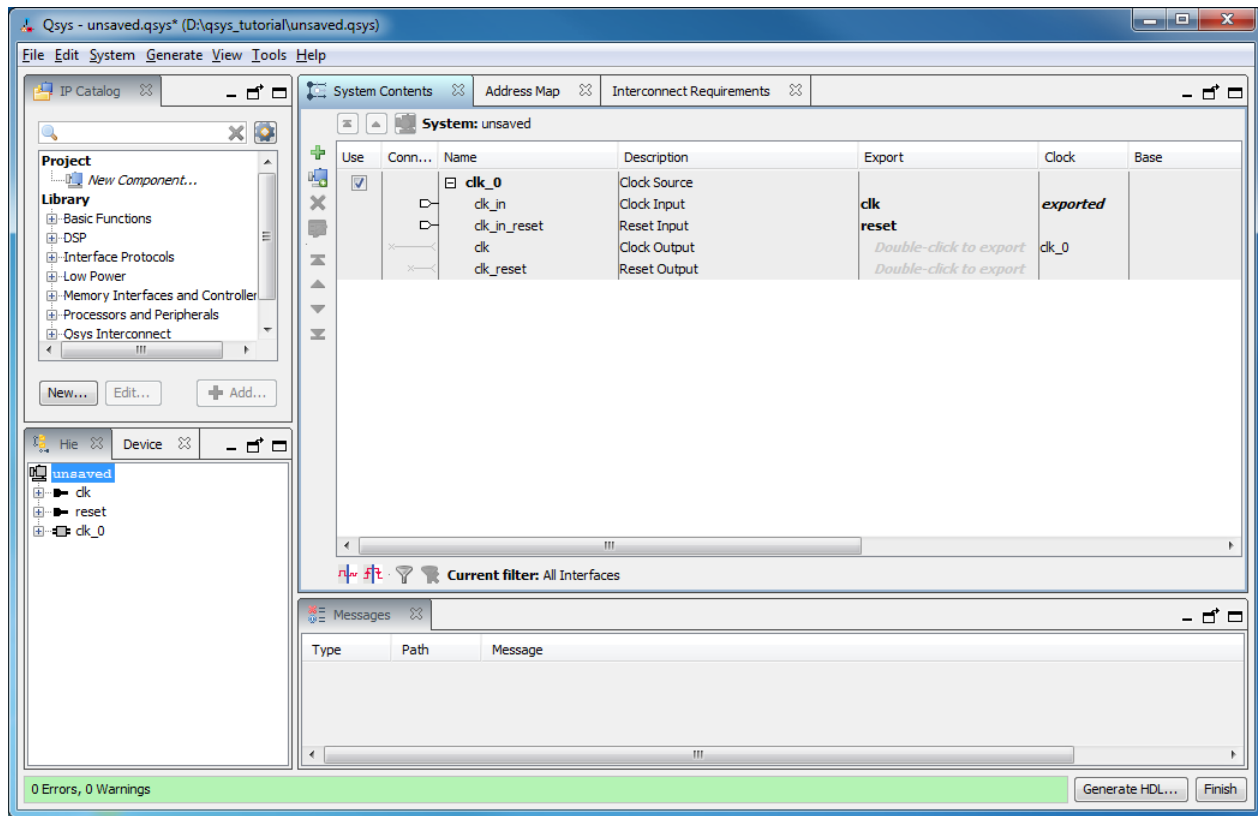

Figure 4. Create a new Nios II system.
2. After completing the New Project Wizard to create the project, in the main Quartus II window select **Tools > Qsys**, which leads to the window in Figure 4. This is the System Contents tab of the Qsys tool, which is used to add components to the system and configure the selected components to meet the design requirements. The available components are listed on the left side of the window.